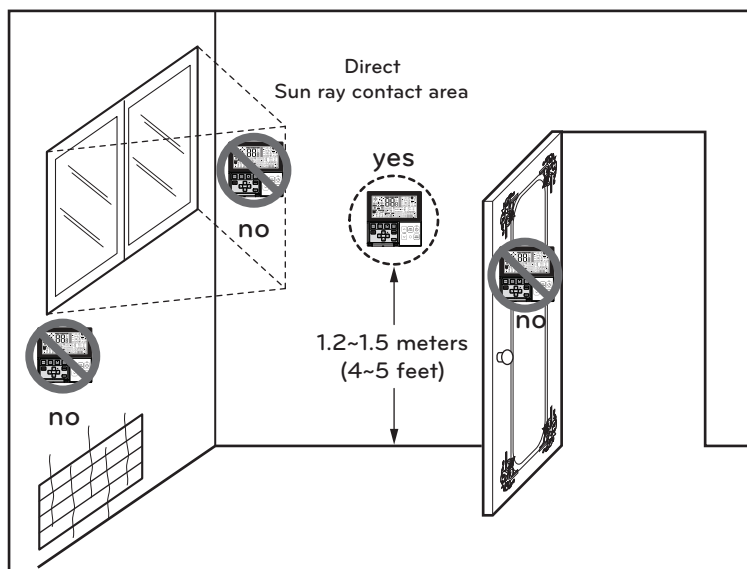

Figure 5 Typical locations for remote controller
- This remote controller is equipped with a seven segment LED. display. For proper display of the remote controller LED's, the remote controller should be installed properly as shown in Fig.5. (The standard height is 1.2~1.5 m (4~5 ft) from floor level.)